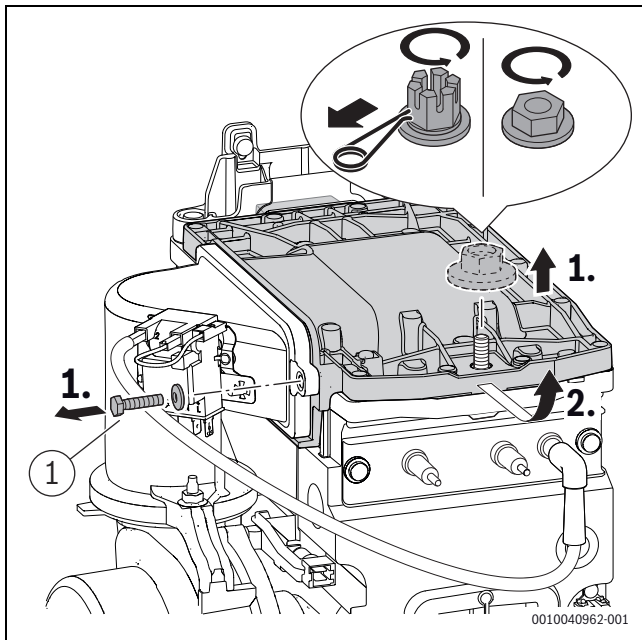

Fig. 45 Removing the burner cover
- ▶ Tighten the screw ([1], Fig. 45) on the burner cover with 5.5+0.5 Nm.